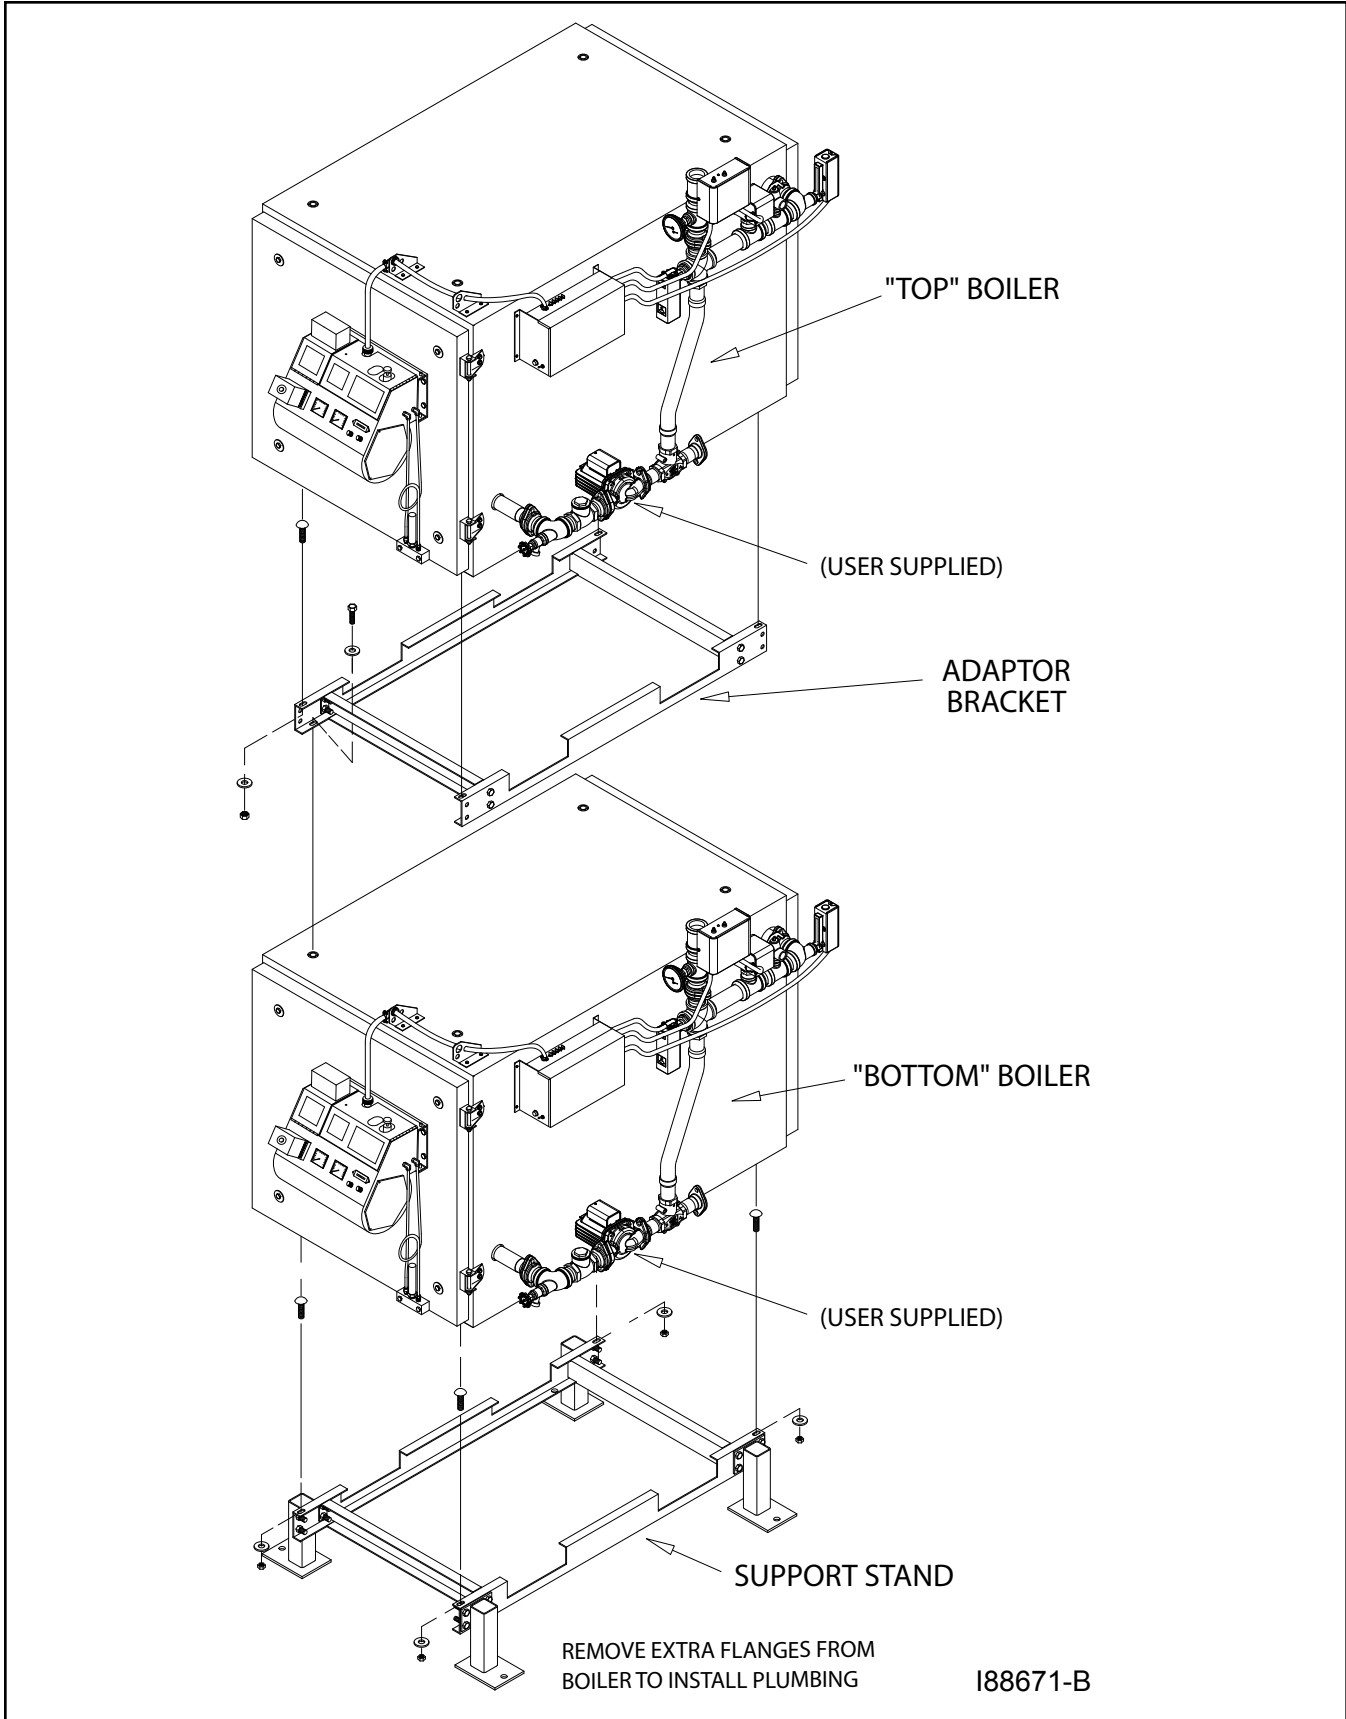

Figure 3D - Dual-Stacked Boiler Assembly Detail
7. Refer to Figures 3D and 3E. Assemble the adaptor bracket using the 1" x 3/8" bolts provided.